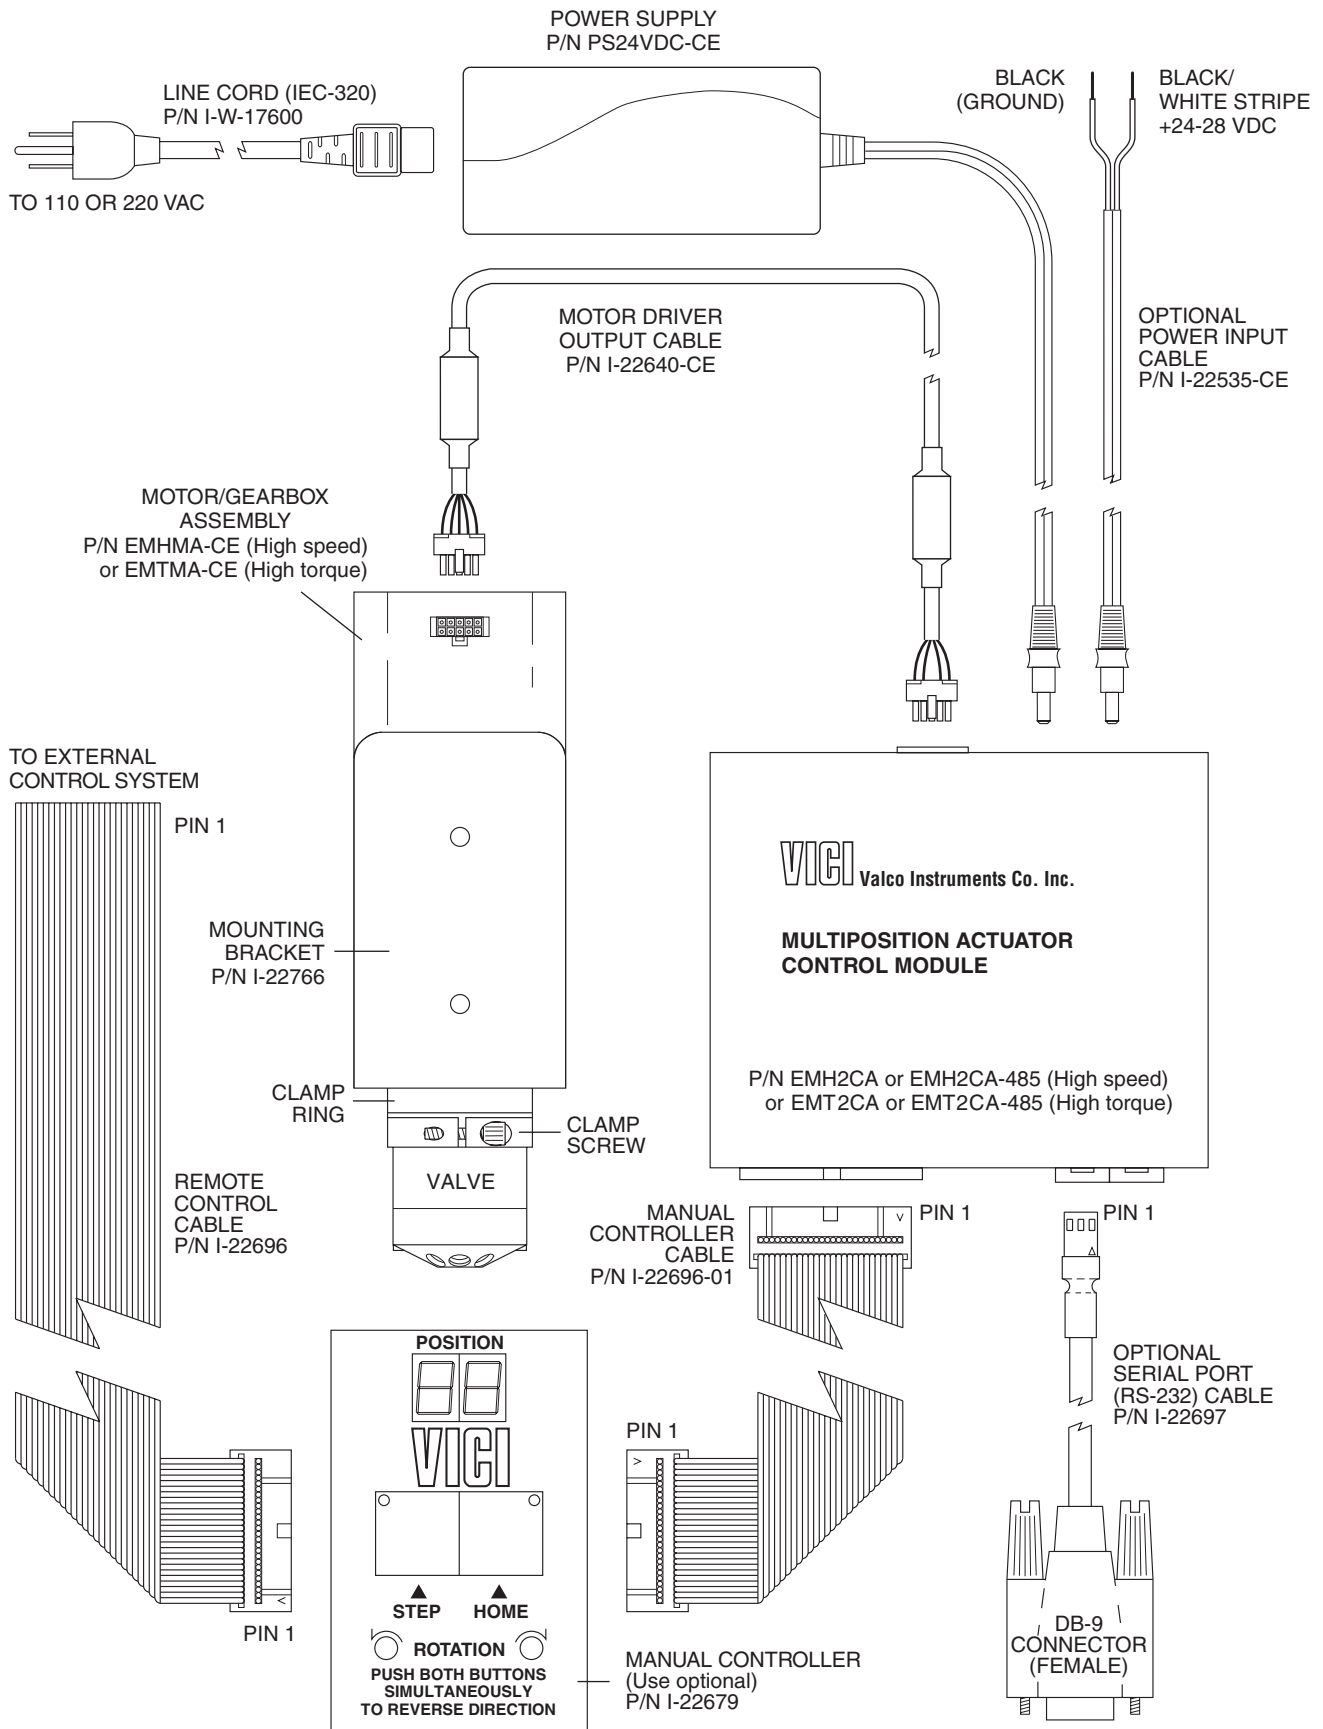

Figure 1: Actuator and controller connections
**Figure 1** on the next page shows the functions of the cables supplied with the microelectric actuator. There are four connectors on the control module, keyed and sized to prevent incorrect connection.
For STEP control, connect Pin 10 (the black wire closest to Pin 1) to one relay terminal and Pin 3 (the orange wire closest to Pin 1) to the other terminal. (*Refer to **Figures 1 and 2** as required.*)